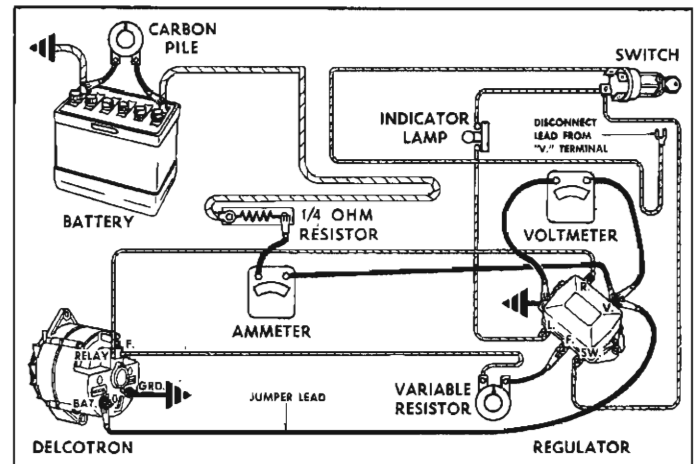

Fig. 7—Checking Voltage Setting
1. Connect an ammeter and a 1/4 ohm resistor with a rating of 25 watts or more in the circuit of the "BAT" terminal of the generator (fig. 7). The 1/4 ohm resistor will limit the generator output to 10 amperes or less, which is required when checking and adjusting the voltage setting.